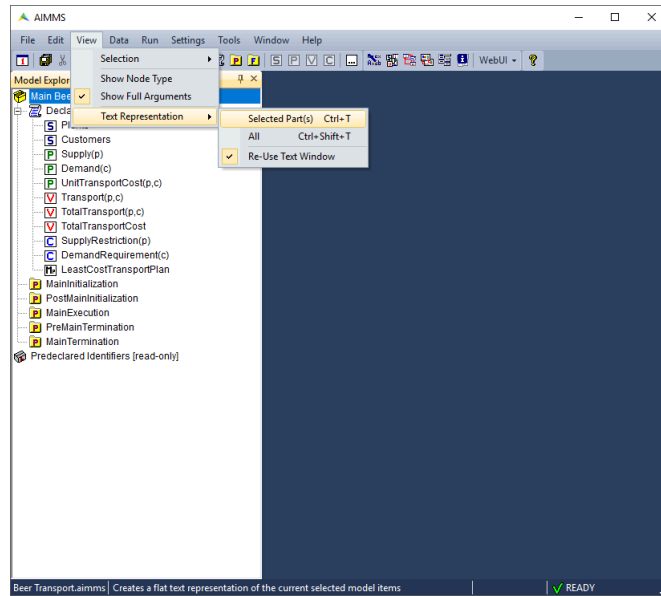

Figure 3.13: View text model
- ▶ go to the **View - Text Representation** menu and execute the **Selected Part(s)** command(see Figure 3.13).